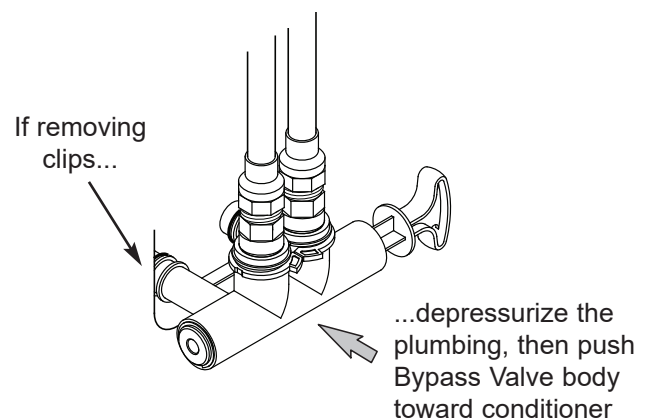

FIG. 14
7. Check for leaks around clips at conditioner's inlet and outlet. If a leak occurs at a clip, depressurize the plumbing (turn off the water supply and open faucets) before removing clip. When removing clips at the conditioner's inlet or outlet, push the single bypass valve body toward the conditioner (see Figure 14). Improper removal may damage clips. Do not reinstall damaged clips.